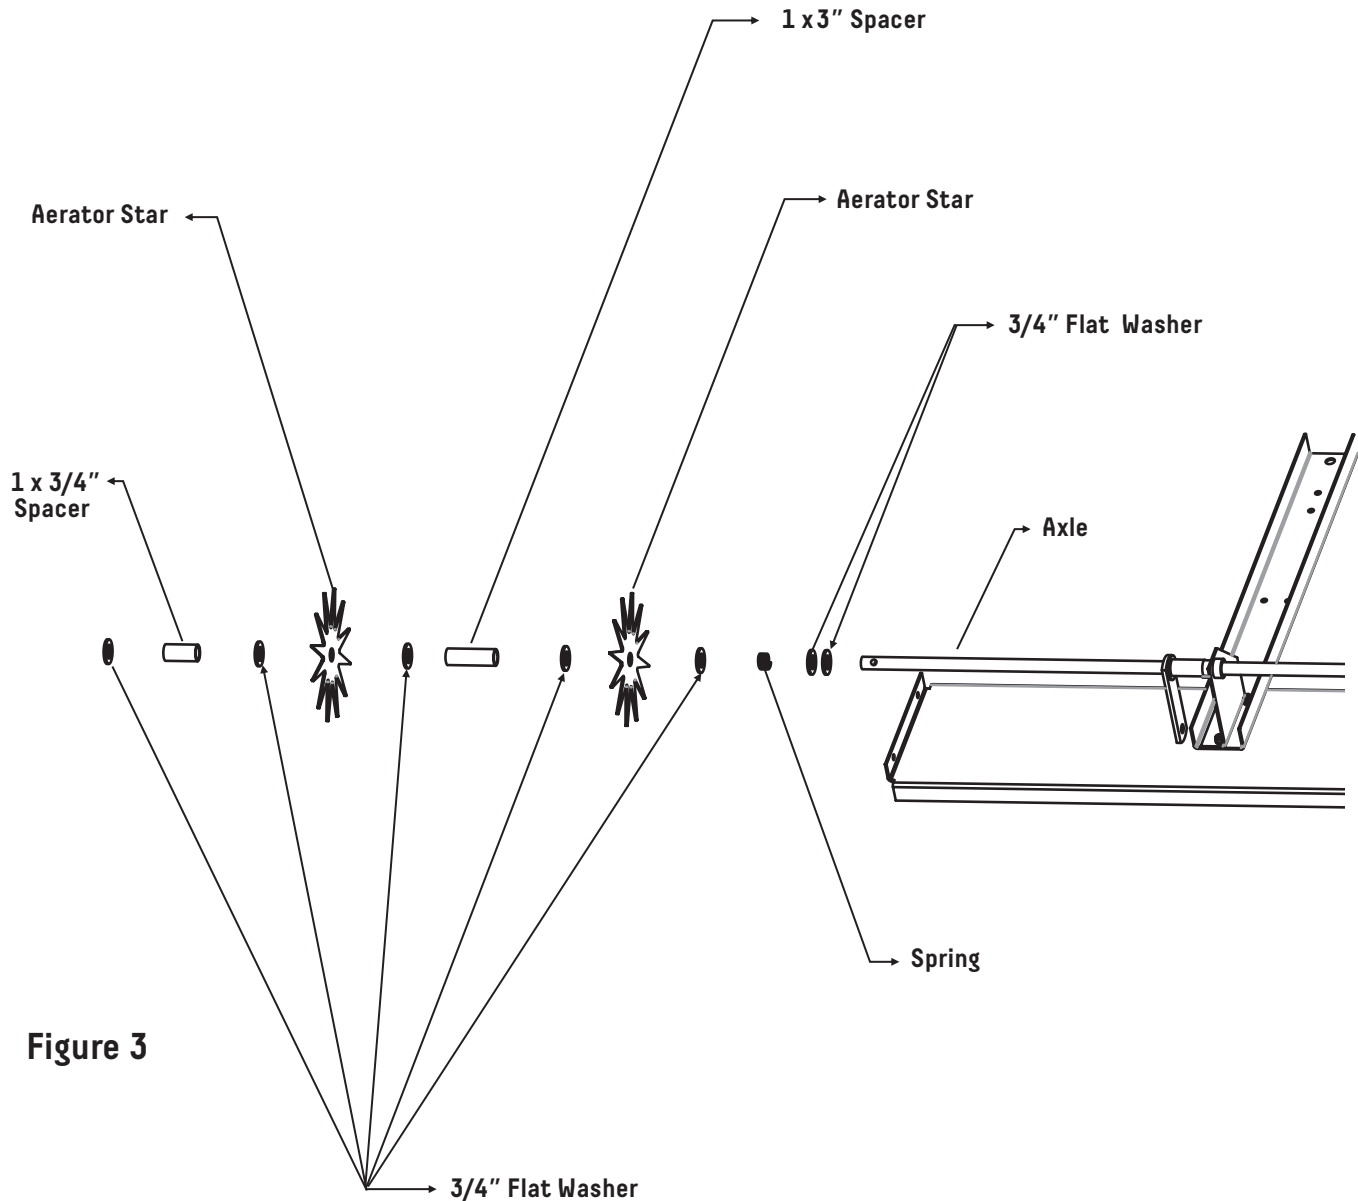

Figure 3
3. On the short side of the Axle, place two 3/4" Flat Washers onto the Axle, followed by an Axle Spring and then another 3/4" Flat Washer, followed by an Aerator Star and then another 3/4" Flat Washer. Place a 1 x 3" Spacer onto the Axle, a 3/4" Flat Washer, another Aerator Star and another 3/4" Flat Washer. Repeat this process three more times. Now place 2 1 x 3/4" Spacers onto the Axle followed by another 3/4" Flat Washer. See Figure 3.